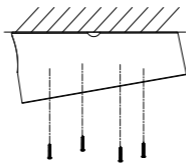

Figure 2-10 Fix the Inclined Base
3. Install the inclined ceiling mount to the ceiling with supplied screws, as shown in Figure 2-10.